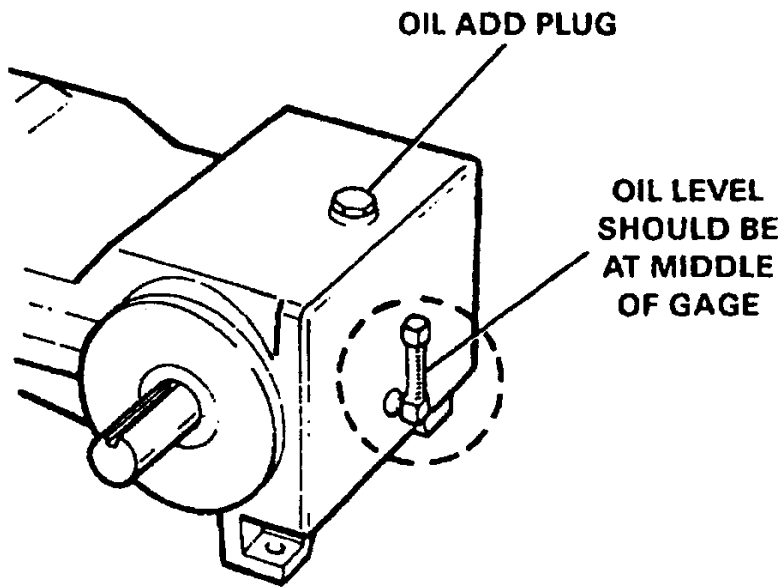

Figure 2-38. High Pressure Pump Oil Level
- (9) Check level of carbon monoxide in the van (Table 2-9).
- (10) Check level of oil in high pressure pump (Figure 2-38).